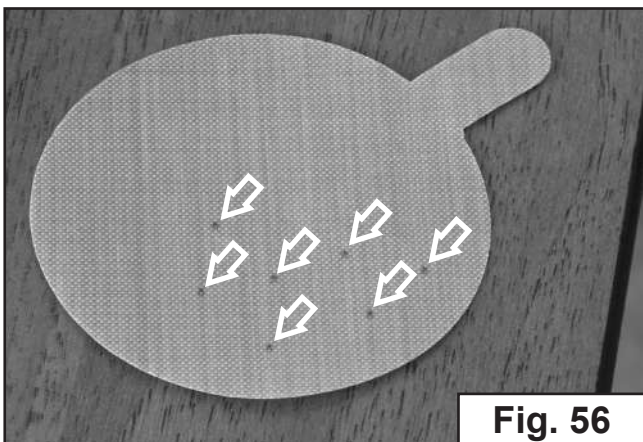

Fig. 56
3. Examine thoroughly the used side of the swab and remove apparent particles to prevent the Detector's contamination (Fig. 56).